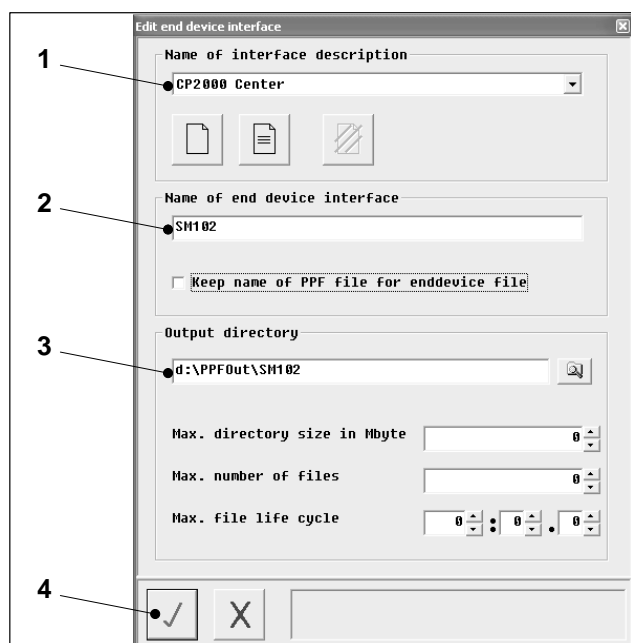

Fig. 41 Editing a terminal interface
The *Edit terminal interface* dialog window shown in Fig. 41 appears.
- Assign a new interface description (Fig. 41/1) to the terminal interface. Please refer to the *Editing an interface description* section for details on editing an interface description.
- Give the terminal interface a new name (Fig. 41/2).
- Change the output directory (Fig. 41/3).
3. Click on *OK* to confirm the entries (Fig. 41/4). The ProcessEditor dialog window appears again.